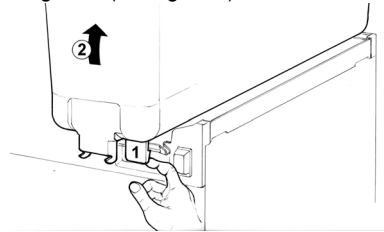

figure 1
2 Remove the empty bowl by lifting pulling lever (1) and its **front side (faucet side)** up and off bowl gasket (see figure 1).